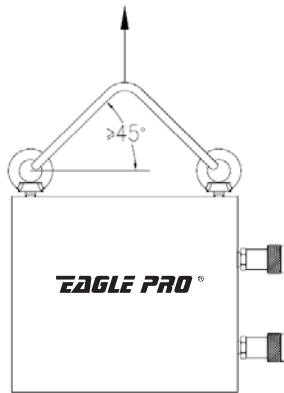

Figure 5
**WARNING:** To avoid equipment failure and possible personal injury, please always use all of the eye bolts when hoisting cylinder, Lifting straps must be at a 45 degree or greater angle ( $\geq 45^\circ$ ) from horizontal (See Figure 5).